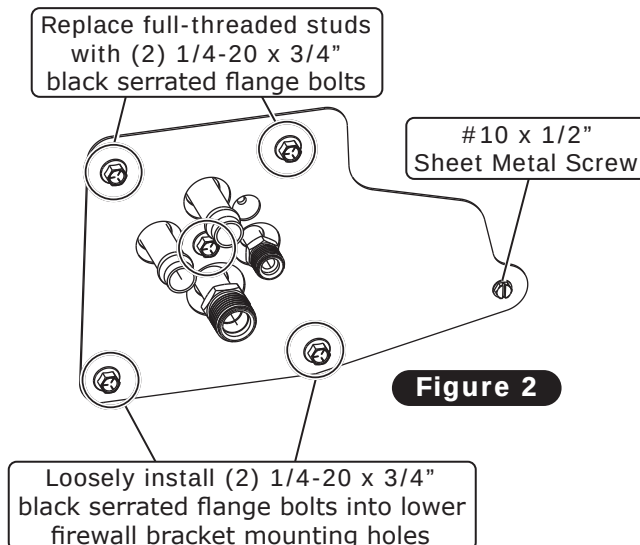

Figure 2
3. Loosely install (2) 1/4-20 x 3/4" black serrated flange bolts into the lower firewall bracket mounting holes on the firewall (See Figure 2, below). Remove the (2) 1/4-20 full-threaded studs and replace them with (2) 1/4-20 x 3/4" black serrated flange bolts (See Figure 2, below). Install a #10 x 1/2" sheet metal screw in the corresponding 1/8" drilled hole as instructed on Page 9.